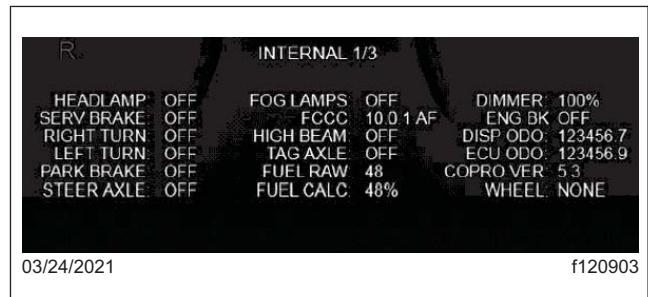
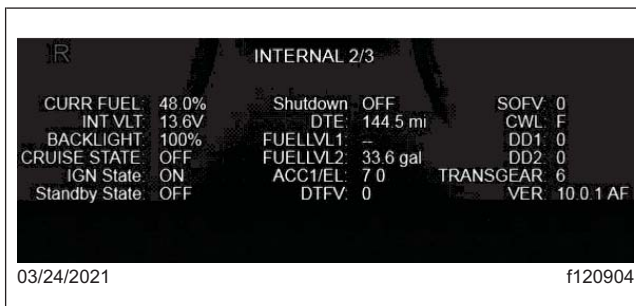
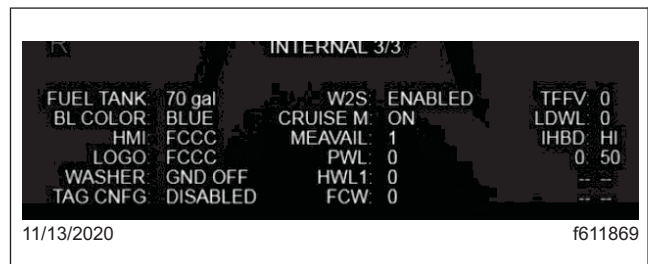

Fig. 17, Internal Diagnostics, Screen One
Fig. 18, Internal Diagnostics, Screen Two
Fig. 19, Internal Diagnostics, Screen Three
9. Scroll down to page three of the Internal Diagnostics screens, shown in Fig. 17, Fig. 18 and Fig. 19. Confirm that the values displayed match the settings for that group in Table 3.